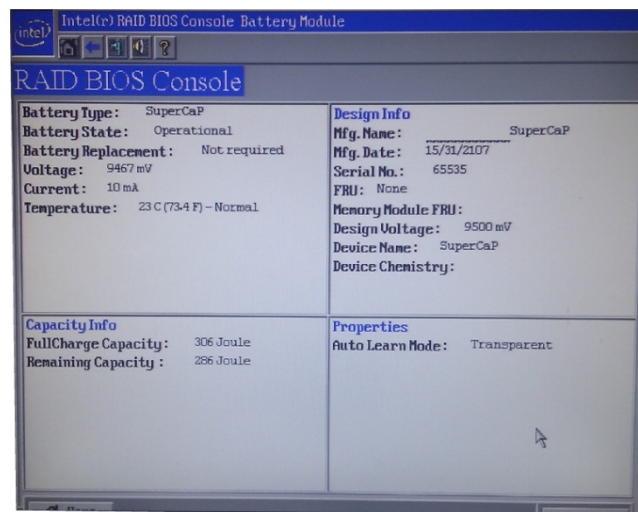

Figure 10. Monitoring the RMFBU2 with Intel® RAID BIOS Console
5. The **Battery Module** screen appears, as shown in Figure 10. This screen contains the following information: